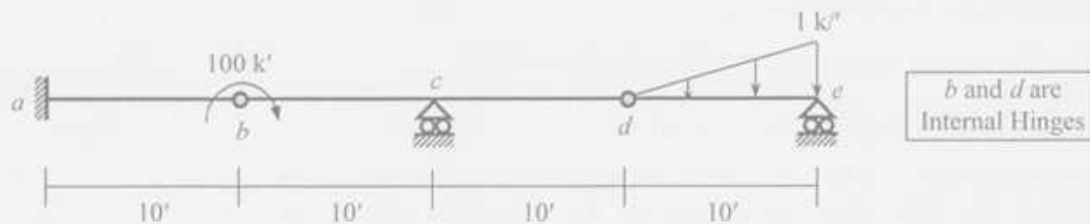

Fig. 5
- of the beam $abcde$ loaded as shown in Fig. 5 [Given: $EI = \text{constant} = 40 \times 10^3 \text{ k-ft}^2$].